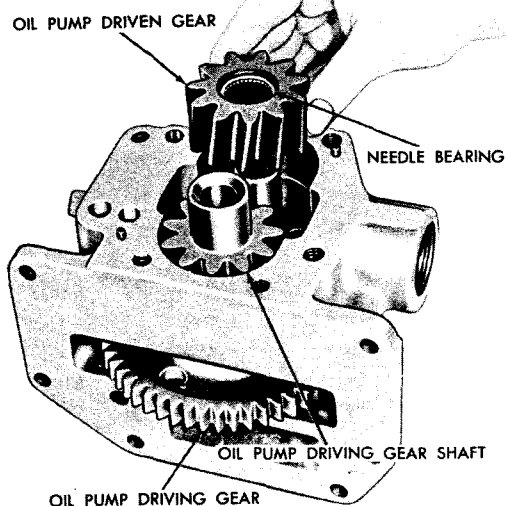

Fig VI-48. Removing (or installing) oil pump driven gear
(6) Remove the oil pump driven gear and bearing as an assembly (fig. VI-48).
(8) Install the oil pump driven gear and needle bearing assembly on the driven-gear shaft (fig. VI-48).